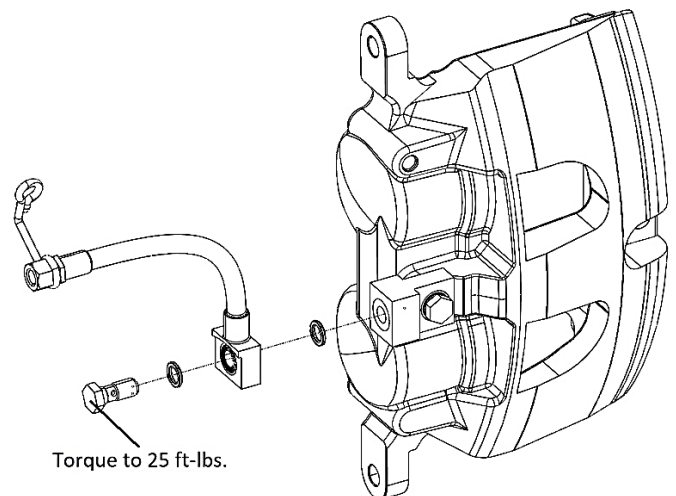

Figure 6: Installation of Passenger Side OEM Brake Line to Relocation Block
8. Install the Passenger side OEM brake banjo mounting with the supplied crush washers and banjo bolt to the banjo block. Orient as shown in Figure 6. Note: Banjo fitting must be oriented to provide optimal clearance between flexible hose and surrounding parts